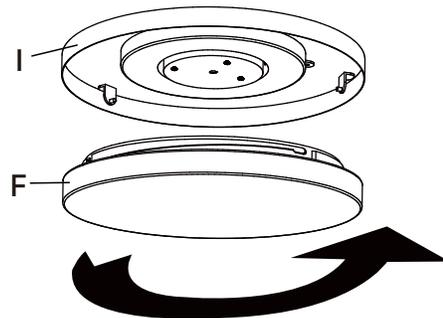

Figure 14
- Install the lamp shade (F) onto the light kit (I) by gently twisting and locking into position. (Figure 14)